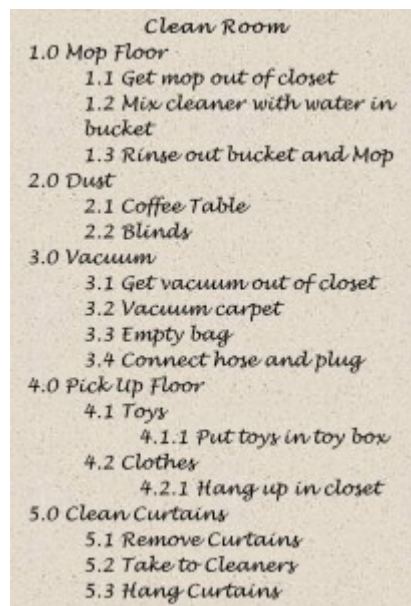

Figure 9.4: Clean Room in an outline view.
3.0 Vacuum, it would be obvious that 3.3 Vacuum carpet would be performed after 3.4 Connect hose and plug! However, you will probably find yourself thinking sequentially, as it seems to be human nature to do so. The main idea of creating a WBS is to capture all of the tasks, irrespective of their order. So if you find yourself and other members of your team thinking sequentially, don't be too concerned, but don't get hung up on trying to diagram the sequence or you will slow down the process of task identification. A WBS can be structured any way it makes sense to you and your project. In practice, the chart structure is used quite often but it can be composed in outline form as well (Figure 9.4).